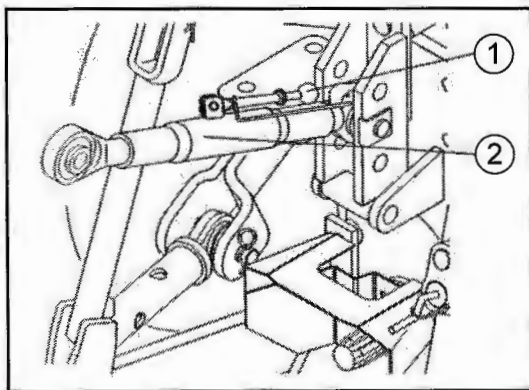

Fig. 23-2 - Top Link Adjustment
To adjust the top link, rotate the sleeve using the cross pin (2). (See Fig. 23-2).